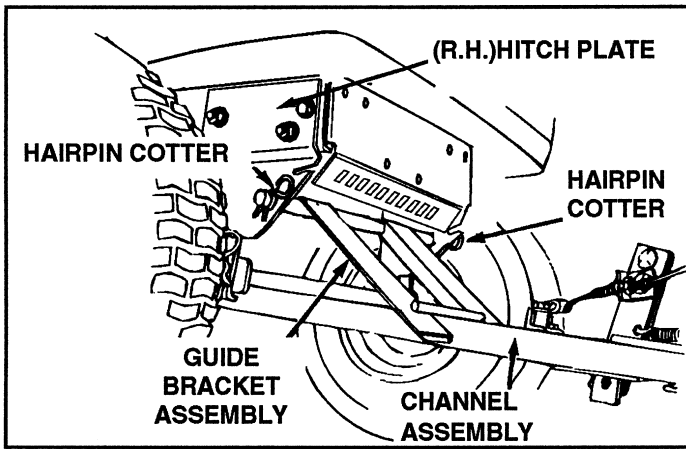

FIGURE 27
31. Secure the guide bracket assembly shaft with a hairpin cotter on each end. See figure 27. Lower front end of guide bracket assembly to straddle channel assembly. See figure 27.